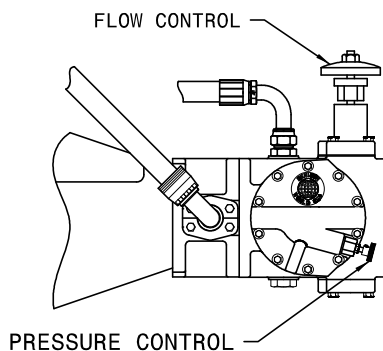

FIGURE 6.3.5 – Hydraulic Pump Controls (Left Side Shown)
- Pump Control Access..... See **Figure 6.3.5 - Hydraulic Pump Controls**.